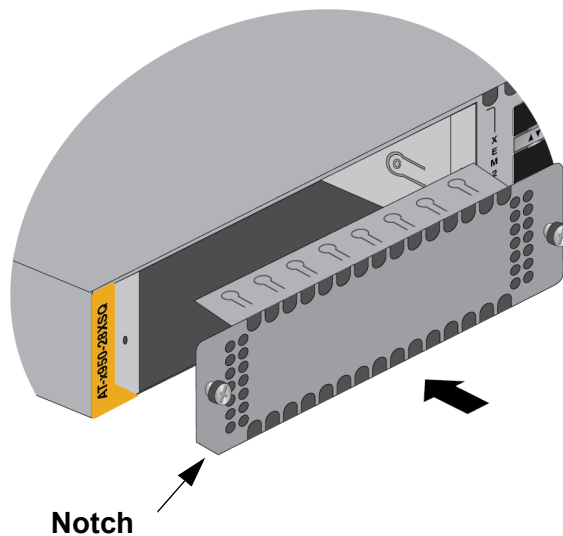

Figure 139. Installing the Line Card Blank Cover
9. Orient the blank cover as shown in Figure 139, with the notch on the bottom left, and slid it into the slot.